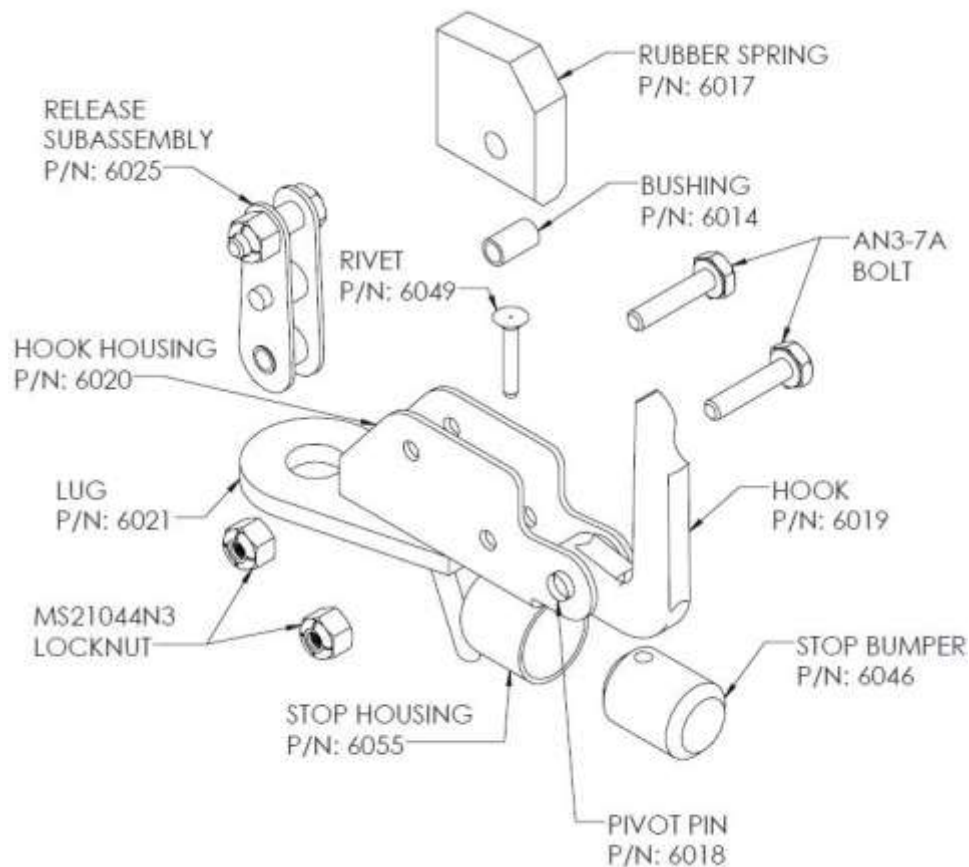

Figure 6.4: Tow Hook/Lug with Stop Exploded View, P/N: 6030
- (1) If cracks or any damage is detected on the following parts, the Tow Hook Assembly must be removed from service and a new Tow Hook Assembly must be purchased from Fliegen Works Inc. **REPAIRS ON THE FOLLOWING COMPONENTS ARE NOT ALLOWED.** Refer to Figure 6.4 below.